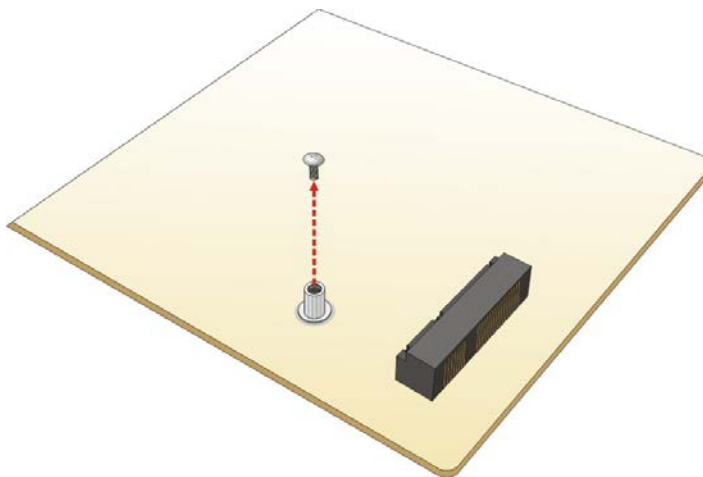

Figure 4-7: Removing Retention Screw
Step 2: Remove the retention screw. See Figure 4-7.